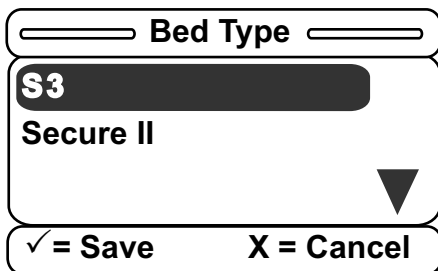

Figure 26 – Bed Type screen
- After you select **Bed Type** and press **Enter** on the footboard panel, the Bed Type screen displays (Figure 26). To select an item, press **Enter** on the footboard panel. Choose **S3**.